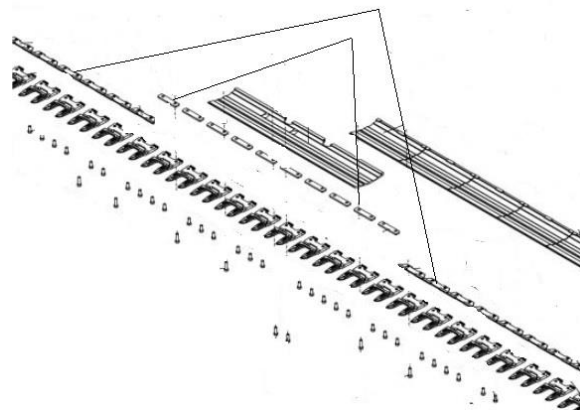

Figure 95
2. The wear strips go under the guards on the outer side of the cutterbar. The spacers go on the guards in front of the knife drive. Figure 95